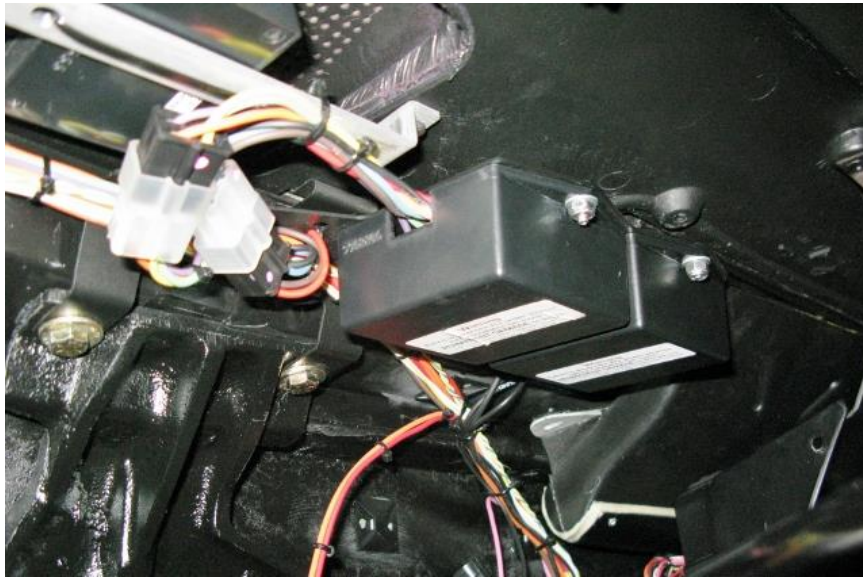

Figure 23 – Mount Wiper Module (Headlight Module also Shown)
31. Mount the wiper control module and the mounting plate to the steering column support. Remove the 2 bolts from the column support and mount the module and mounting plate to the support using the 2 bolts that were removed (Figure 23 on the next page). There are extra holes in the mounting plate so you can wire tie your harness to the mounting plate. **NOTE:** For the 1968-69 vehicles that were equipped with an under dash cross brace, you may need to bend the module plate down slightly away from the brace.